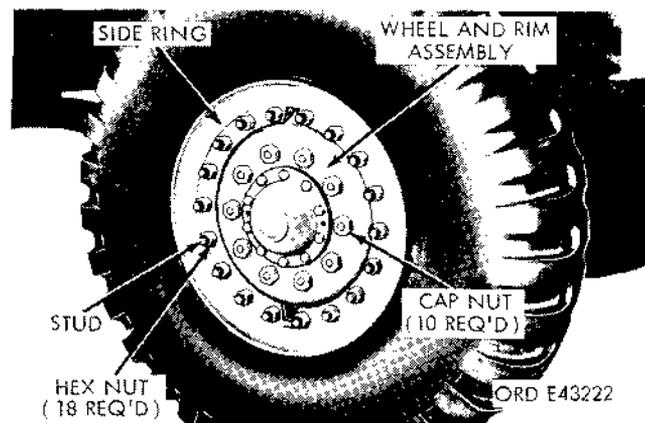

Figure 2-198. Wheel and tire assembly with bolted-on type side ring (14.00x20 tires).
a. Wheels. The wheels (fig. 2-198 and 2-199) are of the offset-disk type, and are interchangeable between the front and rear axles and on opposite sides of the vehicle. Two types of tire mountings are used. Some of the wheels are equipped with snap-on type side rings. The wheels are secured by capnuts installed on the mounting studs at the hub flanges. The capnuts are interchangeable between hubs on the same side, but not between hubs on the opposite sides of the vehicle.
b. Removal (figs. 2-198 and 2-199).
On wheel and tire assemblies with bolted-on type side rings (fig. 2-198), do not loosen the side ring retaining nuts.
(1) Loosen the 10 capnuts securing the wheel and tire assembly to the hub.
(2) Raise the wheel off the ground until the tire clears the ground.
(3) Remove the 10 capnuts, and pull the wheel and tire assembly off the hub studs.
c. Installation (figs. 2-198 and 2-199).
(1) Position the tire and wheel assembly onto the hub studs.
(2) Install 10 capnuts on studs, securing wheel and tire assembly to hub. Alternately tighten nuts.
(3) Lower wheel to the ground, and again tighten all 10 nuts.
a. Removal (fig. 2-198).
(1) Remove wheel and tire assembly as described in paragraph 2-207.